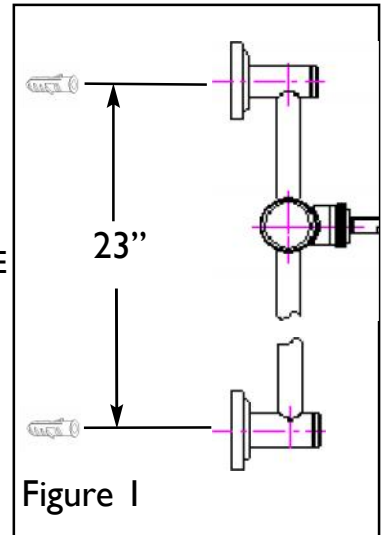

Figure 2
- Place SLIDE BAR (2) into END POST (3). Note: Large diameter hole in SLIDE BAR (2) must face out as shown in **Figure 2.**
- Place POST (3) onto ESCUTCHEON (4), insert SCREW (5) and securely tighten into ANCHOR (1) as shown in **Figure 2.**
- Press END CAP (6) into end of POST (3).